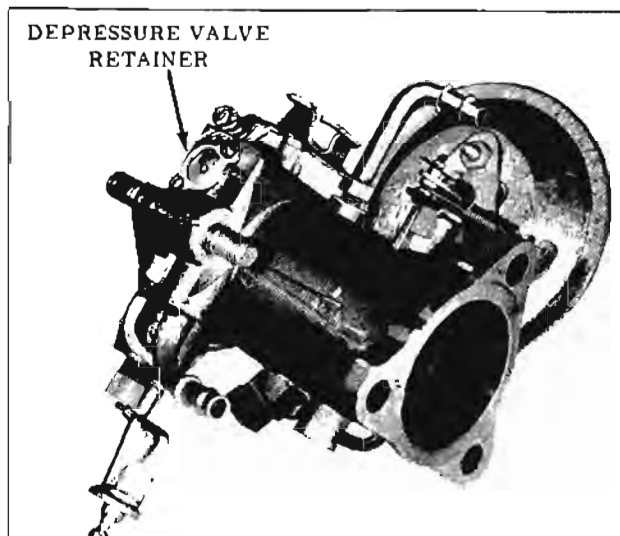

Fig. 9-124 Depressure Valve
5. Install diaphragm in fluid tank depressure valve chamber. Install diaphragm cover. Make sure that diaphragm is not wrinkled. Install diaphragm cover, holding bracket, and retaining screws evenly and securely. (Fig. 9-124)